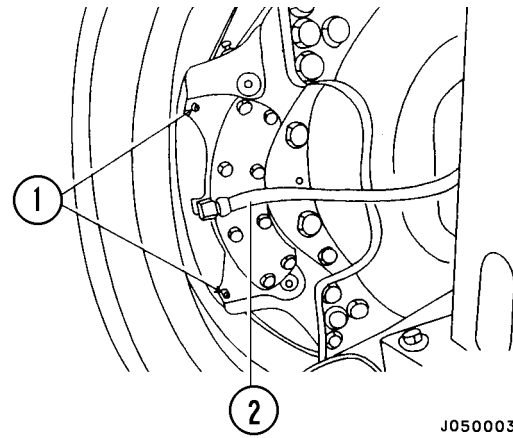

FIGURE 4-15. FRONT BRAKE BLEED PLUGS
2. Depress the brake pedal, then loosen air bleed plug (1, Figure 4-15) 3/4 turn. Tighten the plug again, then release the pedal.